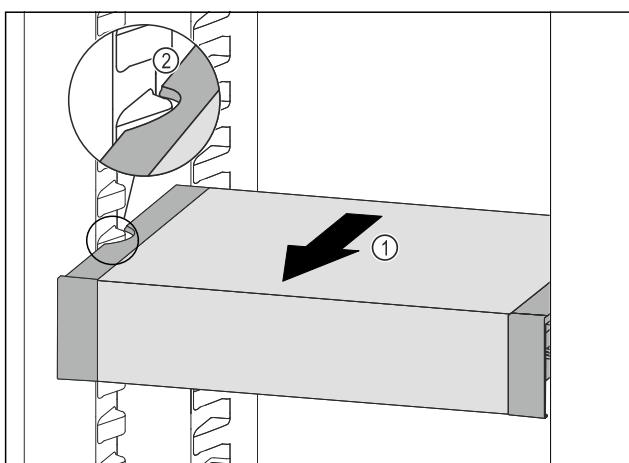

Fig. 111
- ▶ Pull VarioSafe forwards Fig. 111 (1) until the recesses in the side of the VarioSafe are at the level of the support rib in the fridge section. Fig. 111 (2)